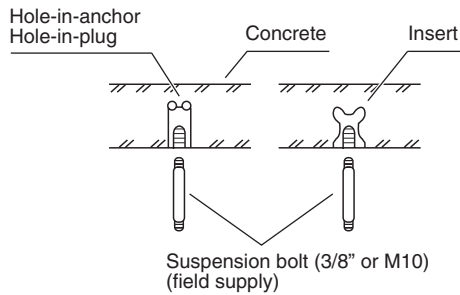

Fig. 1-34
- Insert suspension bolts (Fig. 1-34) or
- (2) Screw in the suspension bolts allowing them to protrude from the ceiling (Fig. 1-34). (Cut the ceiling material, if necessary.)